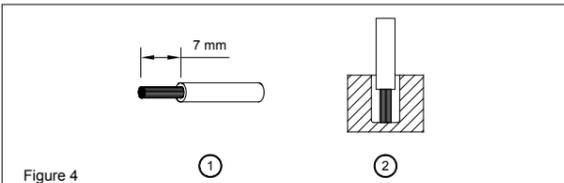

Figure 4
(1)	0,82-8,4	18-8	9,4	8,1
(2)	3,3-5,3	12-10	9,4	8,1
To secure reliable and shock proof connections, the stripping length should be 7mm (see Fig. 4 (1)). Please ensure that wires are fully inserted into the connecting terminals as shown in Fig. 4 (2).